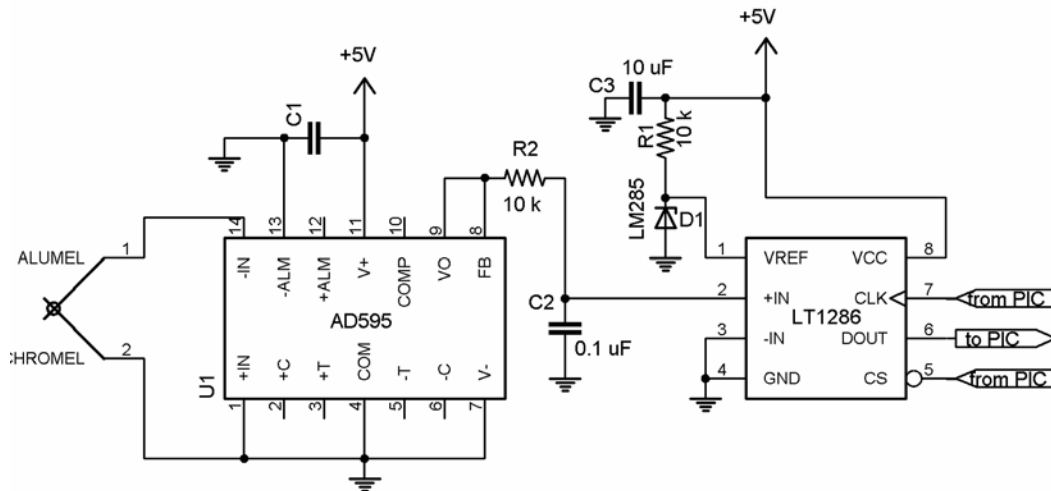

Figure 4. Analog-to-Digital Converter and Thermocouple Amplifier
The circuit you will build is shown Figure 4. The thermocouple amplifier part of the circuit is the same as the one you built earlier. A few notes are in order regarding the ADC part of the circuit.
When connected as shown in Figure 4, the voltage across the reference diode is constant at about 1.2 Volts. VREF at pin 1 of the ADC sets the maximum voltage that the converter can read and it determines the resolution. For an N-bit converter, there are 2^N different output levels, or 2^N different binary numbers that the converter can output. Thus, there are $2^N - 1$ steps in the output of the converter, each step corresponding to an incremental increase in the input voltage. The resolution is sometimes defined as this incremental increase in voltage per binary step. That is, the resolution is the total voltage range divided by the number of steps, or $VREF/(2^N - 1)$.
- Go ahead and build the circuit shown in Figure 4.